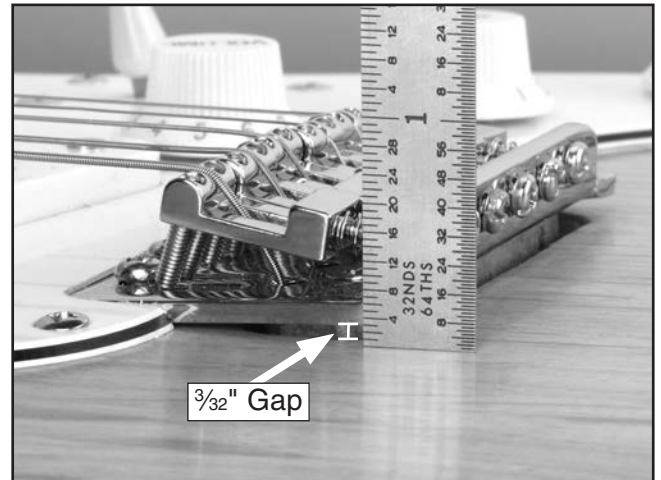

Figure 37. Tremolo wedge gap.
3. Tension the strings and then re-adjust the wedge if needed until there is a $\frac{3}{32}$ " gap between the guitar body and the underside of the bridge plate as shown in **Figure 37**. Re-tension the strings if necessary.